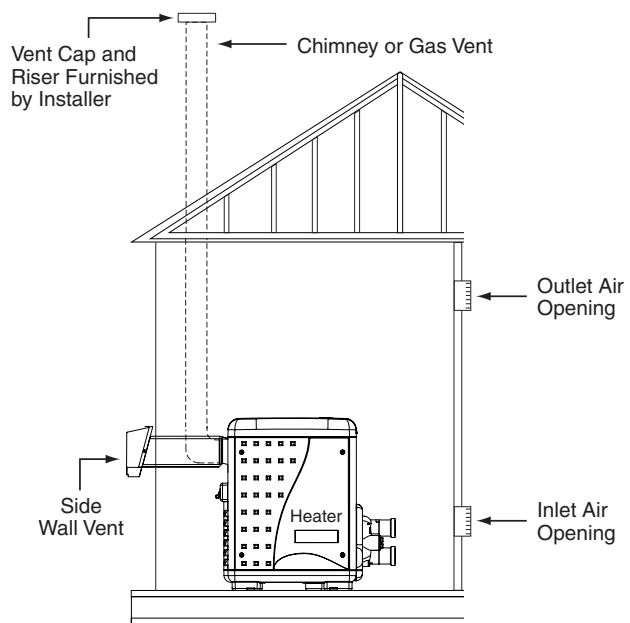

Figure 14.
HORIZONTAL OR VERTICAL VENTING - POSITIVE PRESSURE (See Figures 14, 15, and 16)**(Category III)**
6. **Vent Termination – Vertical** (See **Figures 14 and 15**), for height of vent termination above the roof. Use an "Approved" vent terminal specified by local and national codes and your manufacturer's instructions. A roof termination must be vertical. In Canada, the Vent Cap location shall have a minimum clearance of 4 feet (1.2M) horizontally from electric meters, gas meters, regulators, and relief openings.